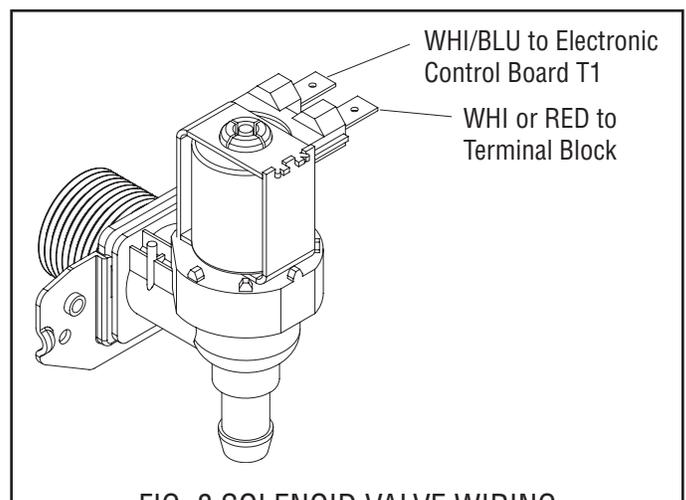

FIG. 8 SOLENOID VALVE WIRING
8. Reconnect the wires, FIG. 8.